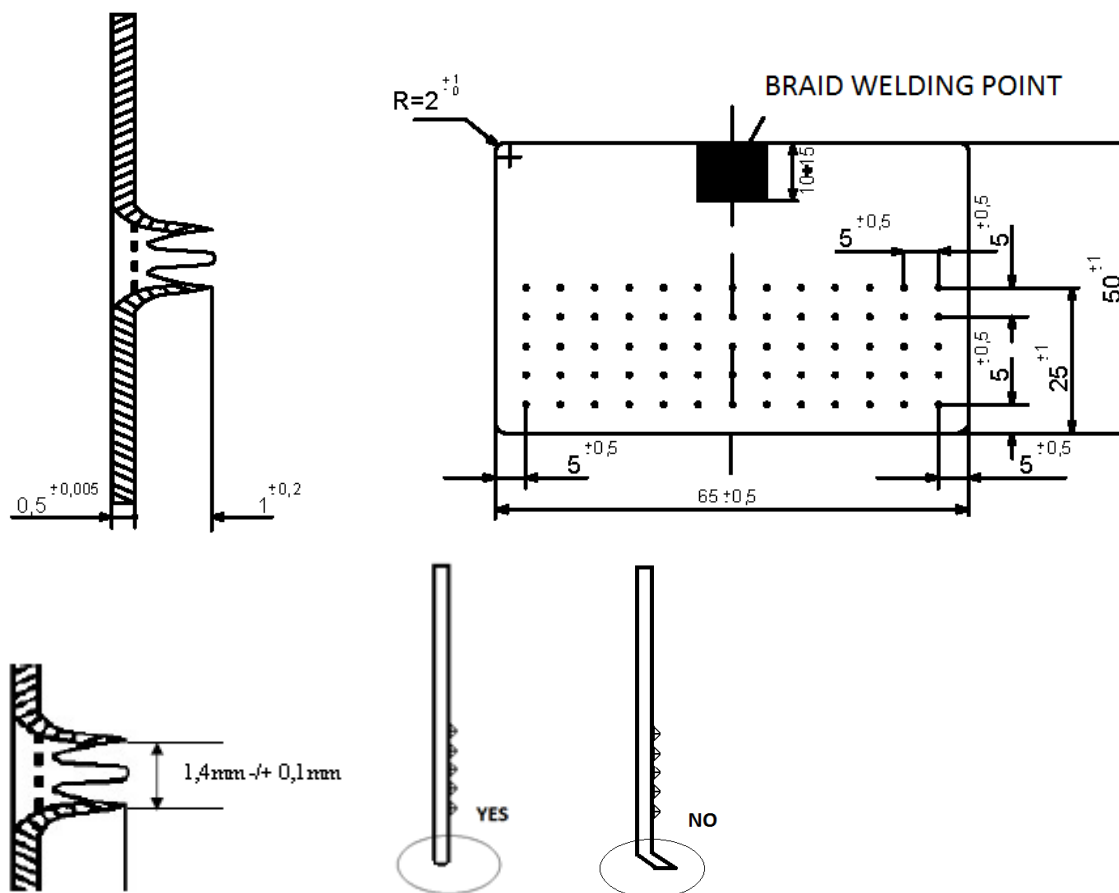

Figure 6 – Detail of rectangular plate for aluminum tape screen connection
- plate of tin-plated hard copper with a tin coating having minimum thickness of 0,5 µm. The plate shall be as shown in Figure 6 and shall be bent on a cylinder of diameter 25 ± 2 mm; the convex side of the plate shall include 65 asperities, arranged as shown in the Figure 6. These asperities shall have a particular shape (see example in Figure 6) in order to allow piercing the aluminum tape, to obtain a satisfactory contact with the screen, and to partly penetrate the outer thermoplastic sheath of the cable, to prevent movement or removal of the device. The edge and the internal side of the plate shall be free of sharp or rough parts, in particular in the lower side in contact with the semiconductive layer of the cable. The lower side going under the aluminum tape shall have no protruding edge (an example is shown in Figure 6) but a small rounded edge lower than the asperities.
- A tin coated copper braid with a minimum length of 0,6 m. One end of the braid shall be welded to the rectangular plate described above at the position shown in Figure 6; the other end shall be connected to the lug described in 10.2.4.1. The section of the tin copper braid shall be compatible with the sections prescribed in Table 7.